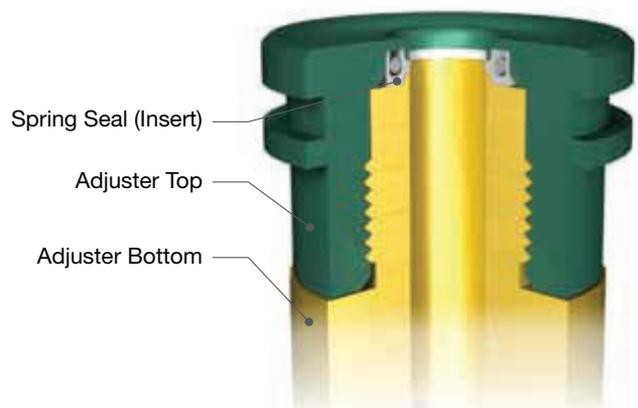

Figure 24: Adjuster Top Assembly
- (ix) Inspect Adjuster Top to make sure that Spring Seal (Adjuster Top) did not flare out during installation and that the Spring Seal (Adjuster Top) is shown in Figure 24.
- (ix) Inspect Adjuster Top to make sure that Spring Seal (Adjuster Top) did not flare out during installation and that the Spring Seal (Adjuster Top) is oriented as shown in Figure 24.